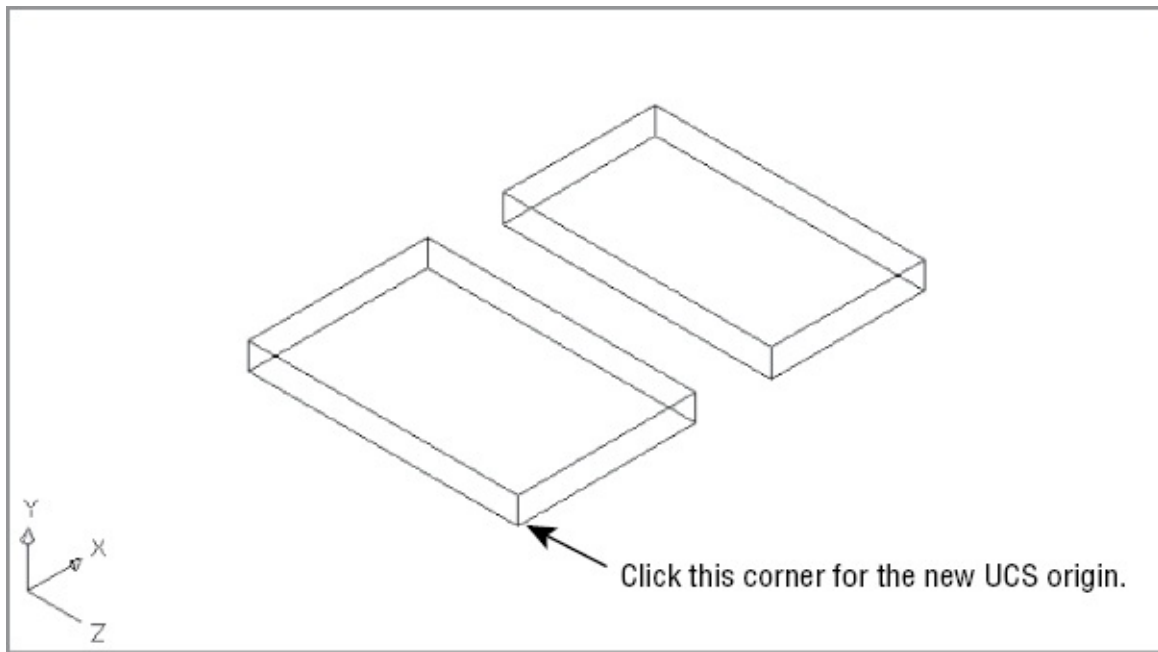

FIGURE 21.7 Setting up a UCS
2. At the Specify new origin point <0,0,0>: prompt, use the Endpoint osnap and click the bottom-front corner of the chair seat, as shown in Figure 21.7. The UCS icon moves to indicate its new origin's location. If you typed in the command, press Enter to accept the other default values.